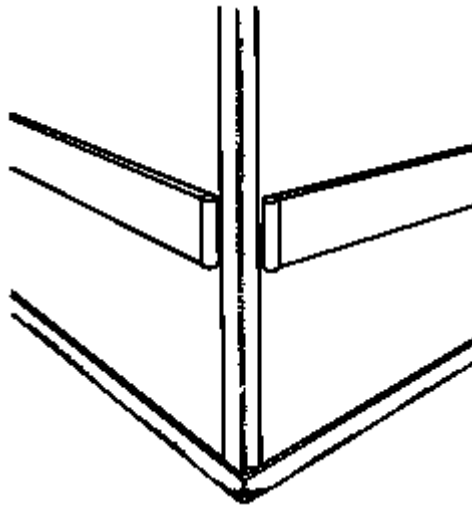

Figure 5 Corner protection
- 3.10 These areas may still require corner protection and handrail/crash rails, splayed skirtings etc if used by mechanically propelled tugs and heavy trolleys (see Figure 5).